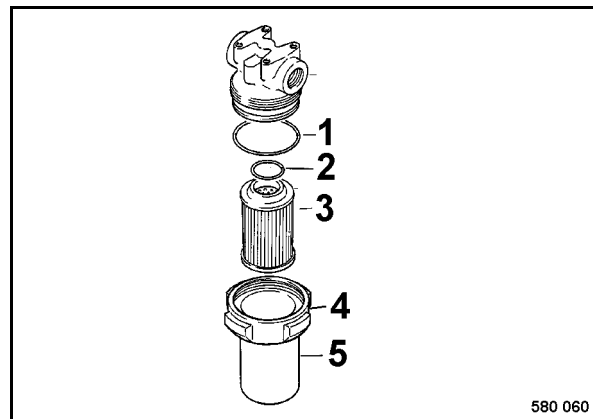

Fig. 99
- Unscrew the cap nut 4 (Fig. 99) and take the filter bowl (5) with the filter element (3) off.